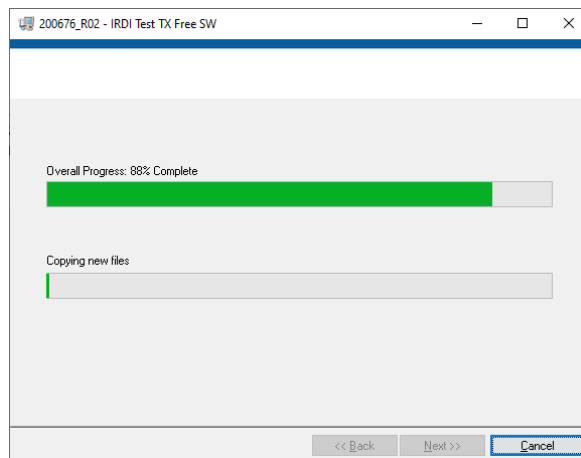

FIGURE 4-10 INSTALLING SOFTWARE
STEP 6	Allow components and software to Install – see Figure 4-10. When done, click Next >>.